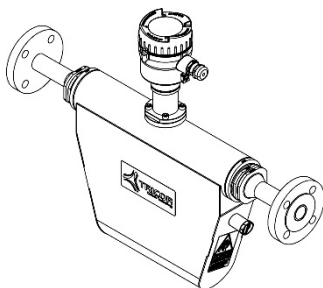

Fig. 3: Compact version with TCD 9010 transmitter
- For the configurations involving **the TRICOR TCD 9010 or 9200 transmitter installed with the sensor enclosure** (see figure 3 and 5) the maximum allowable process fluid temperatures with respect to temperature class for the device when used with potentially explosive gases in the following maximum ambient temperatures are: